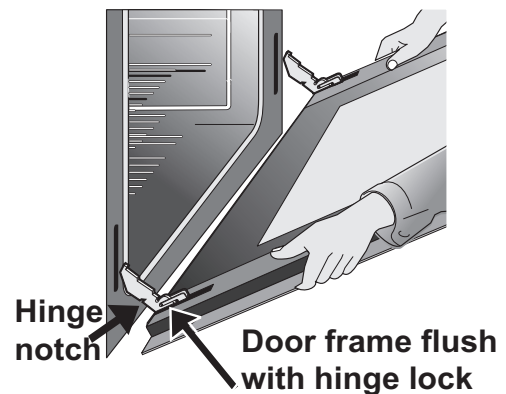

Figure 26: Remove door position
4. Pull the bottom of the door toward you while rotating the top of the door toward the appliance to completely disengage the hinge levers (Figure 26).
1. Firmly grasp both sides of oven door along the door sides. Do not use the oven door handle (Figure 26).
2. Hold the oven door at the same angle as the removal position. Carefully insert the hinge levers into the oven frame until you feel the hinge levers are seated into the hinge notches. The hinge arms must be fully seated into the hinge notches before the oven door can be fully opened. (Figure 26).